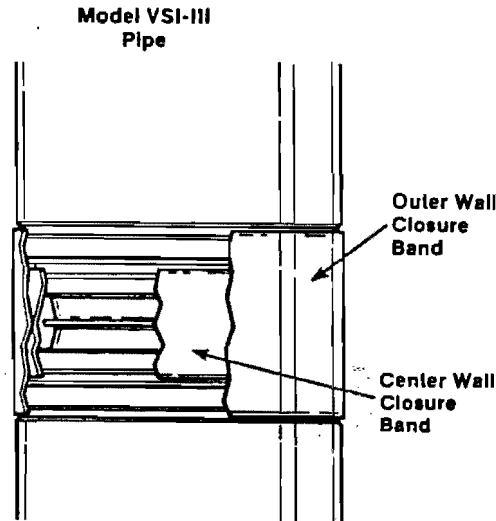

FIGURE 10 Basic Assembly Step 7: Triple Wall Systems only. Install Closure Band between adjoining outer walls, bridges center wall gap.
7. On Model VSI-III triple wall joints, an 8" wide Closure band is installed to bridge the gap between adjoining outer walls (Figure 10). It is installed exactly like the band outlined in steps 5 and 6 above.